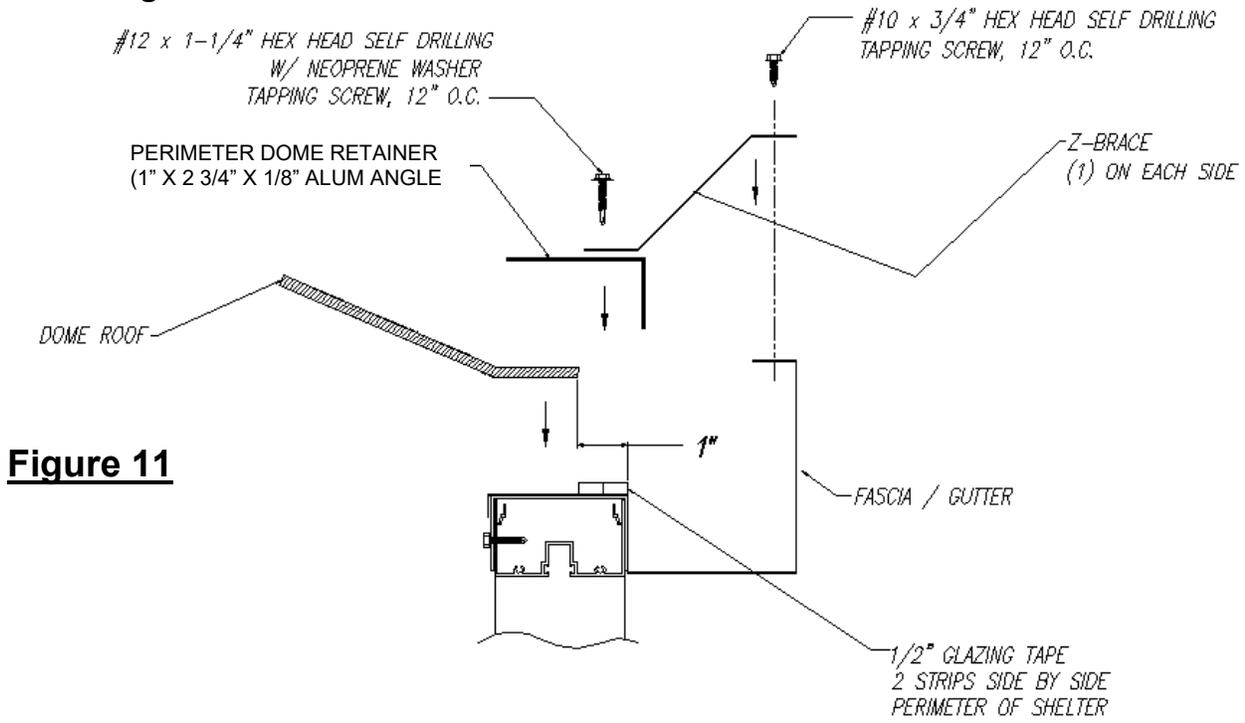

Figure 11
Place 1 layer of glazing tape (2 strips side by side) in the gap between the perimeter of the shelter and the edge of dome. **See Figure 11.**
Fasten the (8) Z braces, (1) on each 5' or 6' side and (3) on each 12' or 15' side, spaced equally apart, to the top of the perimeter dome retainer, using (2) #12 x 1-1/4" hex head with neoprene washer self tapping screws. **See Figure 11.**
Fasten the Z braces to the top of fascia/gutter system using (3) #10 x 3/4" hex head self tapping screws. **See Figure 11.**